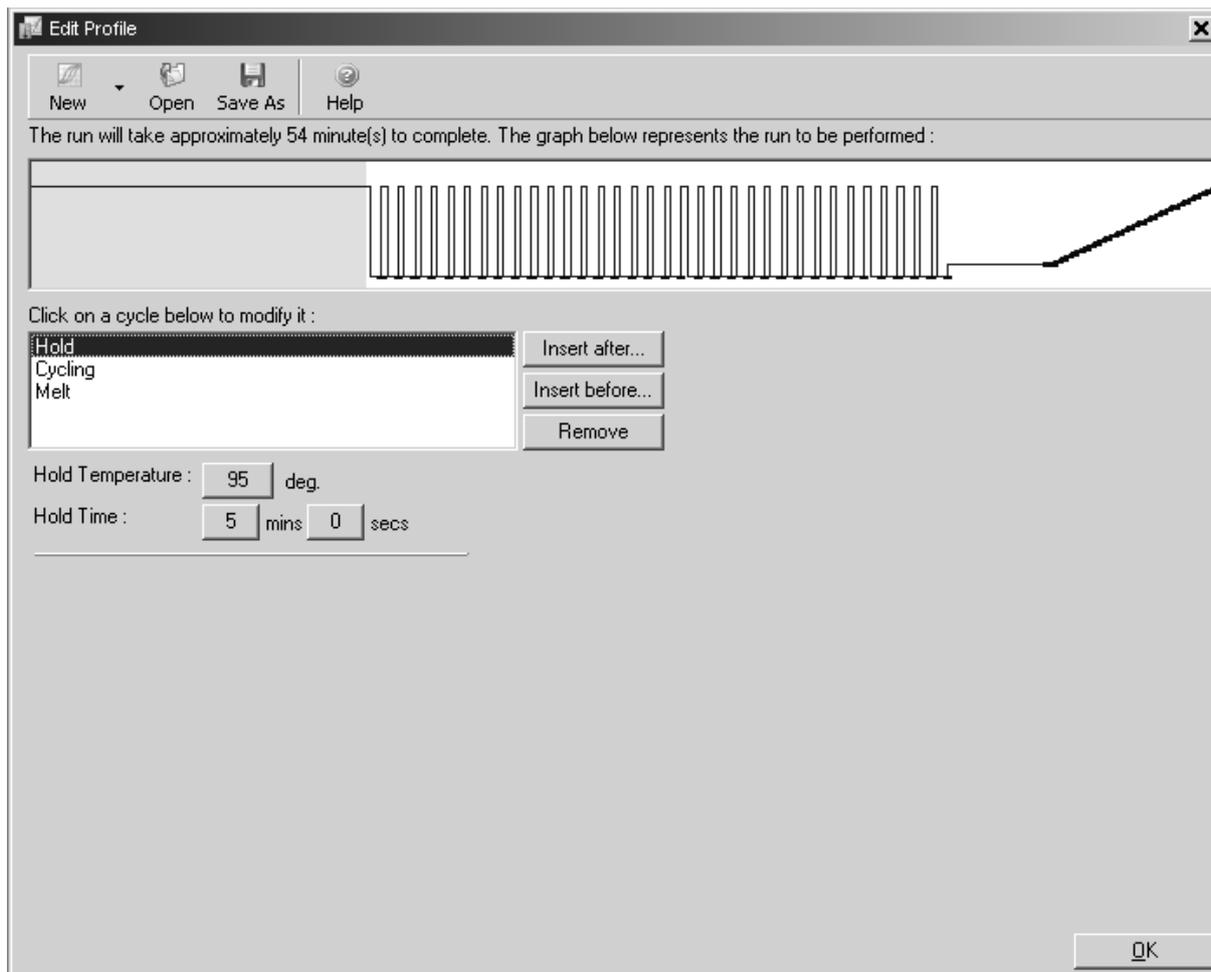

Figure 1. PCR initial activation step. PCR requires an initial incubation at 95°C for 5 min to activate HotStarTaq *Plus* DNA Polymerase.
5. Click on “Edit Profile”, and program the Rotor-Gene cycler according to the program outlined in Table 3 and Figures 1–4 (pages 17–20).